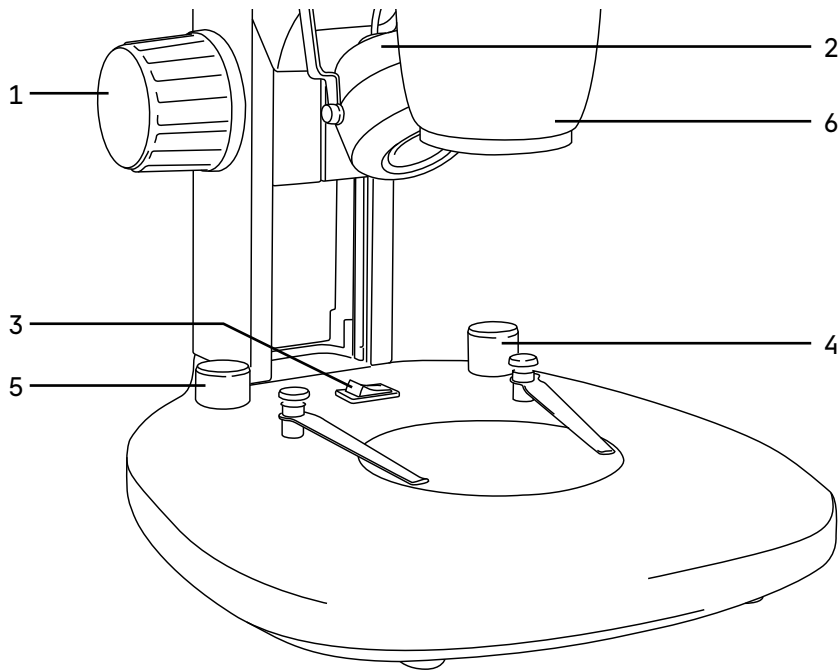

Fig. 2. Switching on the illumination
Turn the ON/OFF switch **3** (Fig. 2) to "-" position (ON). Transmitted light and reflected light illuminators are switched on.
For the reflected light microscopy, the illuminator **2** (Fig. 2) is used, and its light intensity is adjusted by the knob **5** (Fig. 2). For the transmitted light microscopy, the illuminator brightness is adjusted by the knob **4** (Fig. 2).
Before switching off the microscope, rotate the knobs **4** and **5** (Fig. 2) to the minimum.
Use the ring light if you need shadow-free lighting to observe a specimen. The ring light is mounted on the objective **6** (Fig. 2).
Rotate the knobs 1 (Fig. 2) to move the focusing mechanism so that the distance between the specimen and the objective approximately corresponds to the working distance of the objective according to the specifications given in Table 2.
With properly adjusted tension, the microscope head does not lower under its own weight. If you need to adjust the tension of the coarse focusing, hold the left coarse focusing knob 1 (Fig. 2) with one hand and rotate the right knob with the other hand to adjust the tension. By rotating it counter-clockwise, you loosen the tension, and by rotating it clockwise, you tighten it. Too high a tension can cause inconvenience in the operation.